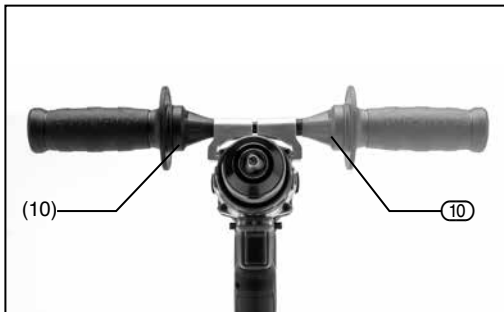

FIG. 6
6.6 AUXILIARY HAND GRIP – FIG.6